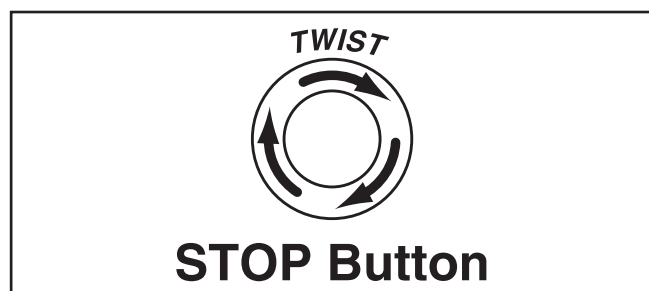

Figure 24. Resetting the switch.
4. Twist STOP button clockwise until it springs out (see **Figure 24**). This resets the switch so the machine can start.